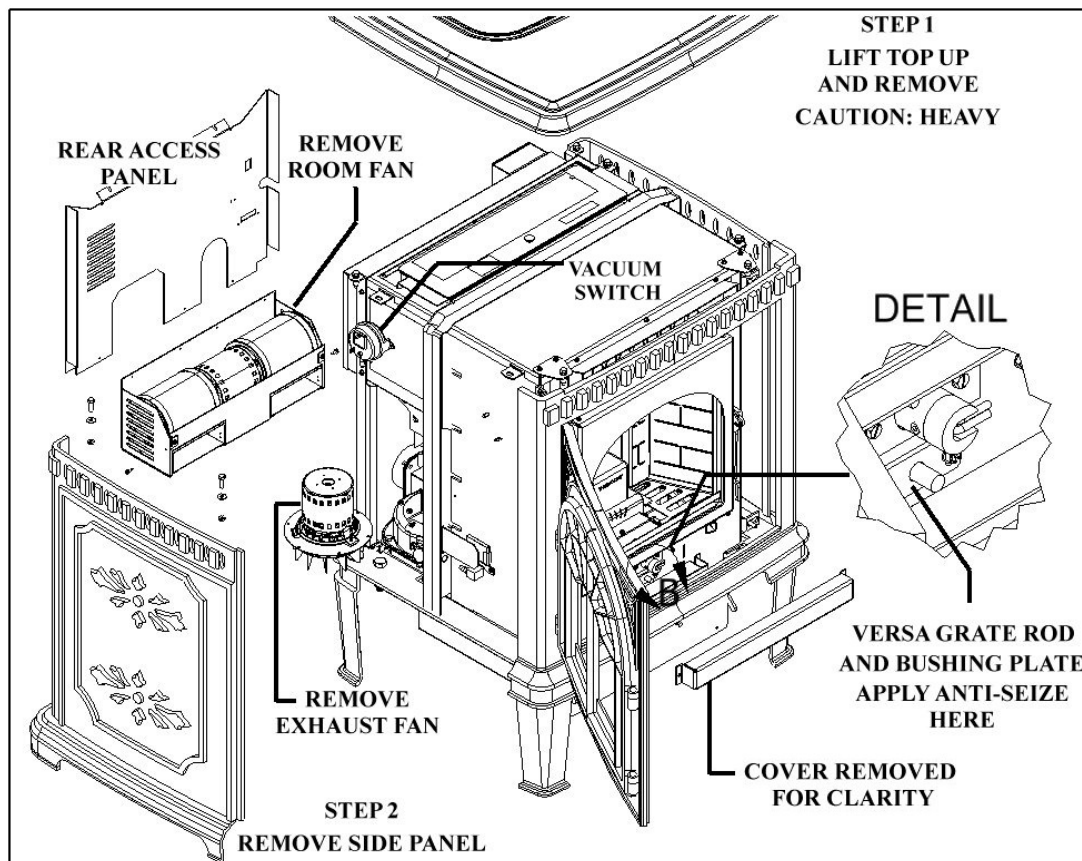

Figure 26
2. The entire exhaust system should be thoroughly cleaned at least annually. We recommend you call your dealer for this service. (See figure 26 on the following page)
3. The motor/fan area behind the firebox and under the hopper should be vacuumed annually. (See figure 26 on the following page)
4. The exhaust fan should be removed and cleaned with compressed air annually. We recommend you call dealer for this service. Annual oiling of the motors is not needed. (See figure 26 on the following page)
5. The Convection fans should be removed and cleaned with compressed air annually. (See figure 26 on the following page)
6. The Versa Grate System needs to be lubricated once a year with some High Temp Anti Seize to prevent the parts from “squealing”. Add some Anti-Seize to the Cam and Rod at both bushings. To gain access to the Versa Grate System in the Hastings II remove the cast iron top and side panel (see Fig 26 and 27). To locate the Rear Bushing assembly, follow the rod from the Shaft/Cage Weldment towards the front of the stove. The front bushing is located below the igniter in the front of the stove. Remove the ash lip cover as shown in figure 26.